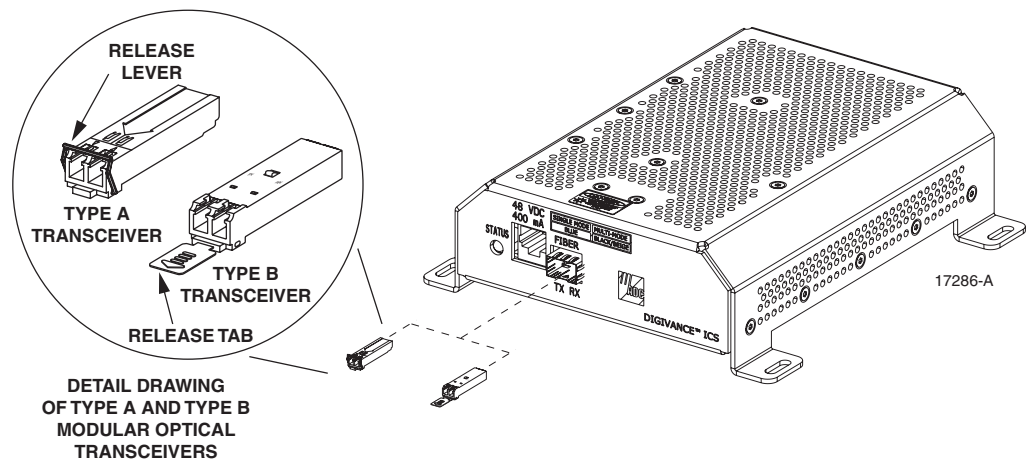

Figure 35. DRU Optical Transceiver Installation
8. Remove the optical transceiver from the anti-static packaging and orient for installation as shown in Figure 35.
- ▶ **Note:** Two types of optical transceivers, type A and type B, are available. Both types provide the same functionality. On the type A optical transceiver, the release lever (see Figure 35) must be closed for installation.